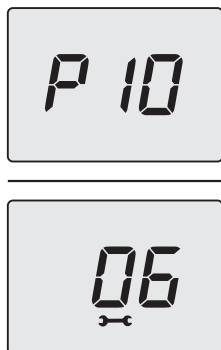

Figure 5.53
- Press the 14 key for 1 second (Figure 5.49) to enter the selected parameter. The display will show the following (6=60 seconds) (Figure 5.53).